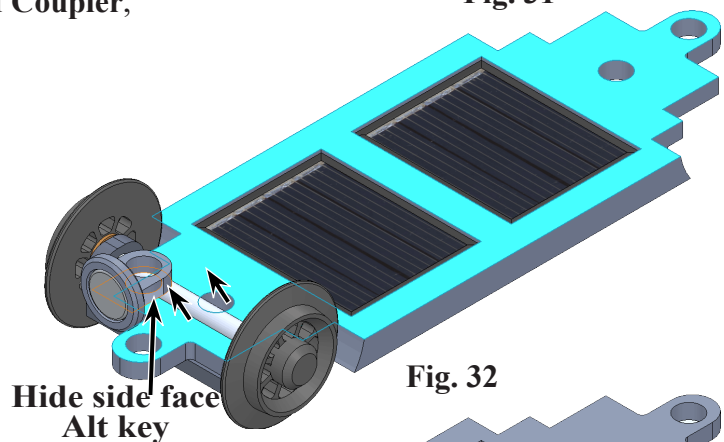

Fig. 32
Step 4. Click **top face of Deck** and **hide side face of Coupler**, then click **bottom face of Coupler**, **Fig. 32**. To hide face, **Alt** key.